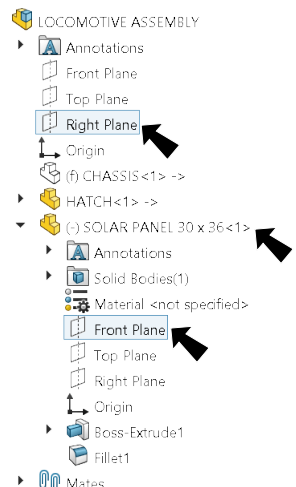

Fig. 12
Step 2. In the flyout Feature Manager design tree, expand **Solar Panel** and click **Front Plane** , **Fig. 12**.